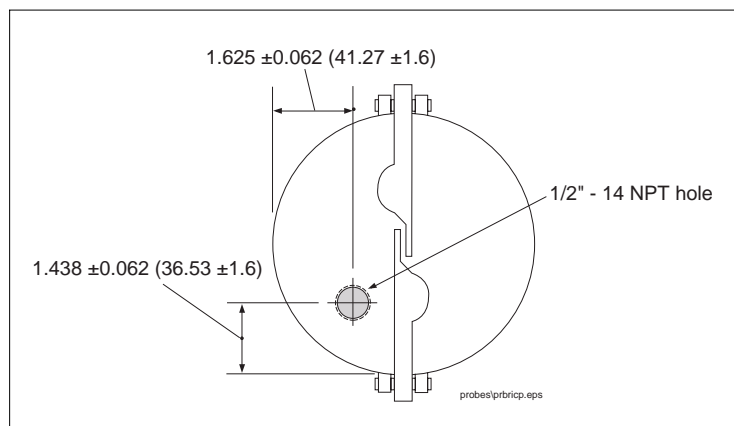

Figure 18. Modifying an existing metal riser cap
2. Remove the cap to a non-hazardous location and drill and tap the cap for a 1/2"-14 NPT cord grip fitting thread [Figure 18].